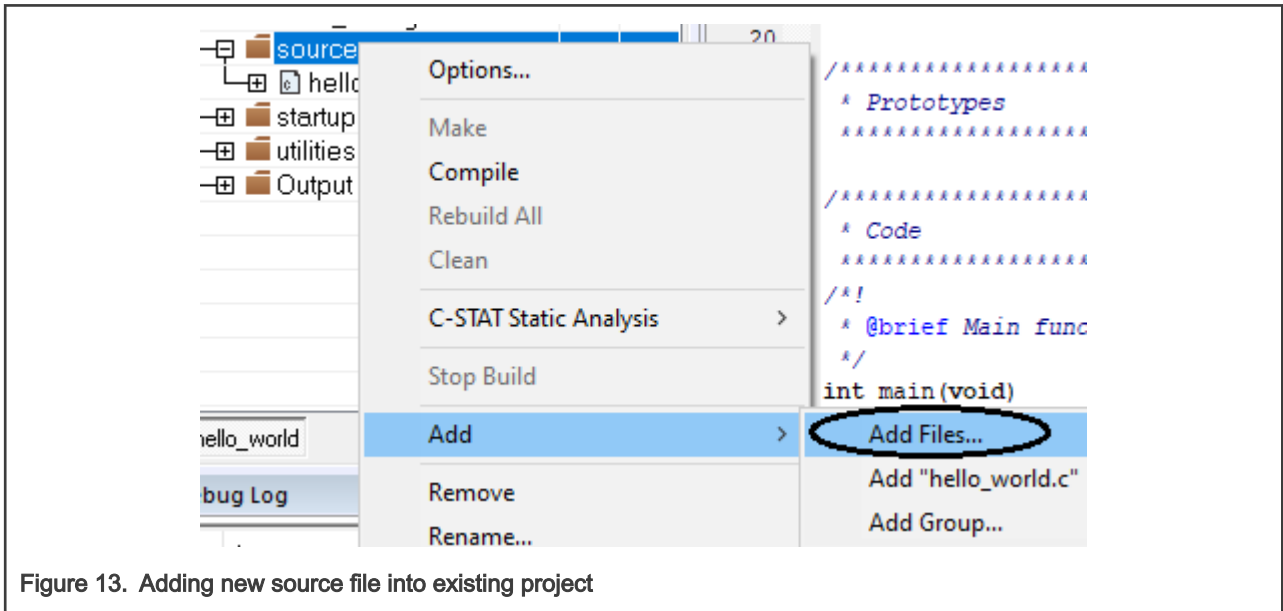

Figure 13. Adding new source file into existing project
3. Extract the *hello_world_hybrid_iar.zip* file and copy the *external_code.c*, *hello_world.c*, and *external_code.h* files in the *hello_world_hybrid_iar/source* folder into the *SDK_2.8.2_EVK-MIMXRT685S\boards\evkmimxrt685\demo_apps\hello_world* folder. Now add the *external_code.c* file in the source group by right clicking on the source folder of the project, as shown in Figure 13.